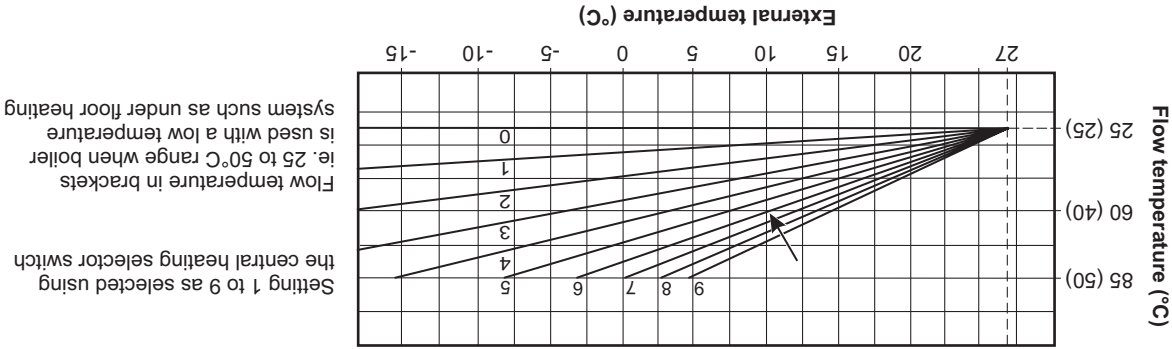
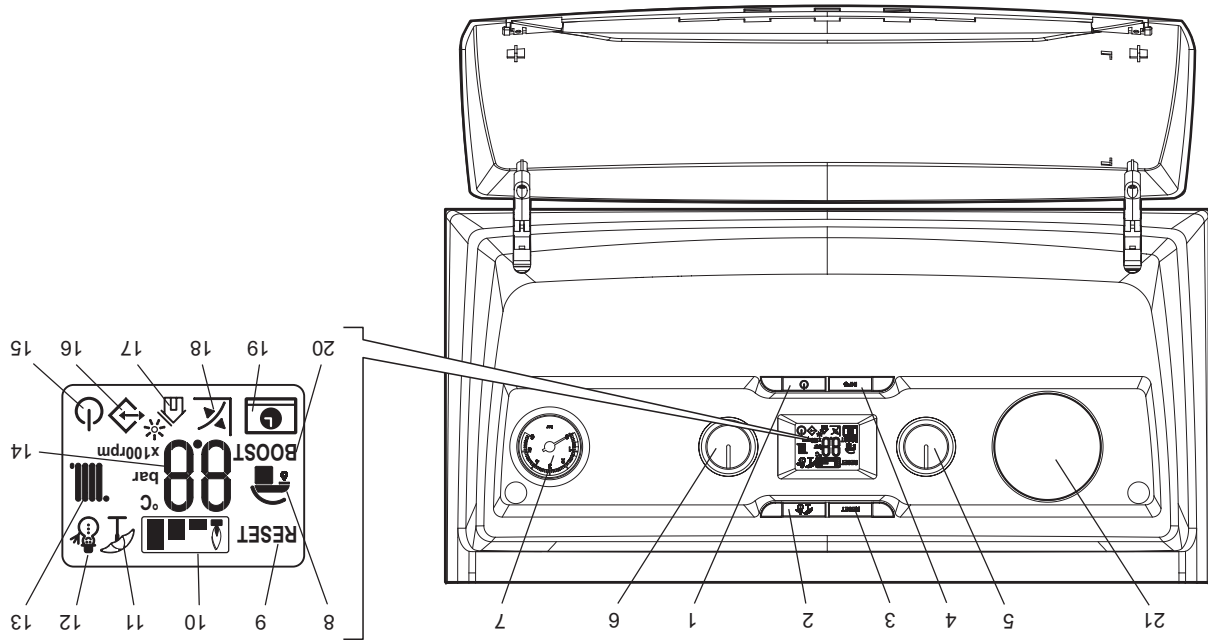

Fig. 2 - External weather compensation probe fitted
Fig. 1
If a fault occurs a fault code will be displayed in the LCD display screen (item 14 in Fig. 1), indicated with an alternating flashing E followed by the fault code. A list of fault codes are given in the table below.
Press the reset button (item 3 in Fig. 1) on the control panel to restart the boiler if the fault occurs again, make a note of the fault code and contact your installer or Alpha technical Helpline for further advice.
By pressing the info button (item 4 in Fig. 1) the information menu is accessed this will then show the information according to the table below.
On - In this mode the boiler can be switched between 'Summer' or 'Winter' settings by pressing the Summer/Winter button (item 1) in Fig. 1).
The temperature of the hot water to the taps can be adjusted by turning the hot water selector switch (item 5 in Fig. 1) to the required value shown on the display in °C.
The temperature of the central heating water can be adjusted by turning the central heating selector switch (item 6 in Fig. 1). When the heating is on the temperature of the water leaving the boiler to the radiators will be displayed.
If an external weather compensation probe is fitted, indicated by the  symbol (item 18 in Fig. 1) in the display, it will automatically vary the temperature of the water in the radiators and on a mild day the radiators will not feel as hot as on a cold day, this is normal and not a fault with the boiler or heating circuit. The room temperature will still be maintained as set by the room thermostat.
When an external weather probe is fitted, the central heating selector switch (item 6 in Fig. 1) will no longer adjust the flow temperature in °C, instead the display will show a scale of 1 to 9. Each number corresponds to a line on the graph in Fig 2 i.e. line 6 will give a flow temperature of 60°C when the external temperature is 10°C.
The boiler controls are located on the control panel behind the hinged cover. Make sure the heating system is filled and the needle on the pressure gauge (item 7 in Fig. 1) is in the green band when cold. If incorrect refer to Section 4.
Switch the boiler on at the mains supply socket switch. The boiler will automatically go through a system purging operation for 8 minutes; this is indicated by a count down on the display starting from 96. During this operation the pump will turn on and off to help remove any air that may be trapped in the heating system. If the boiler has already been commissioned by the installer then this operation can be terminated by pressing the reset button (item 3 in Fig. 1).
By pressing the On-Off button (item 1 in Fig. 1) the Standby or On mode can be selected, or press and hold the On-Off button for eight seconds to turn the boiler off.